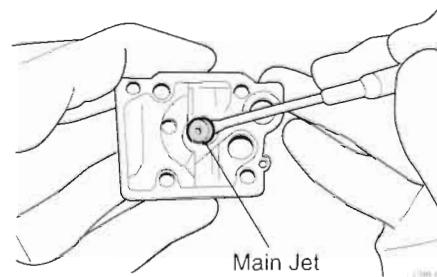

Figure 3.32 Removing the Main Jet and O-ring
STEP 10. Turn the carburetor body over, and use a small screwdriver to pry out the main jet and O-ring (Figure 3.32).